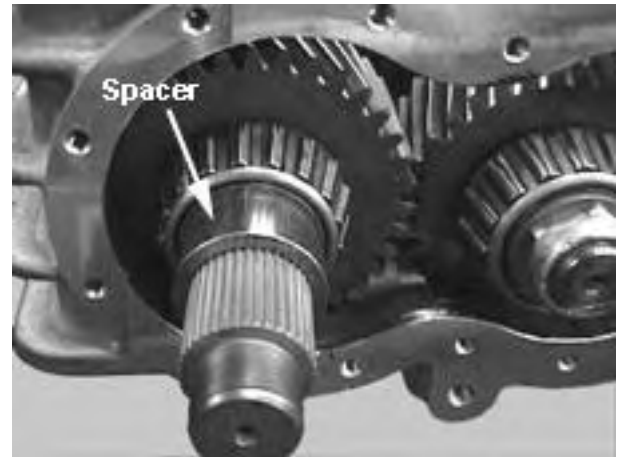

Fig. 68
25. Slide the spacer onto rear output shaft. See Fig. 68.